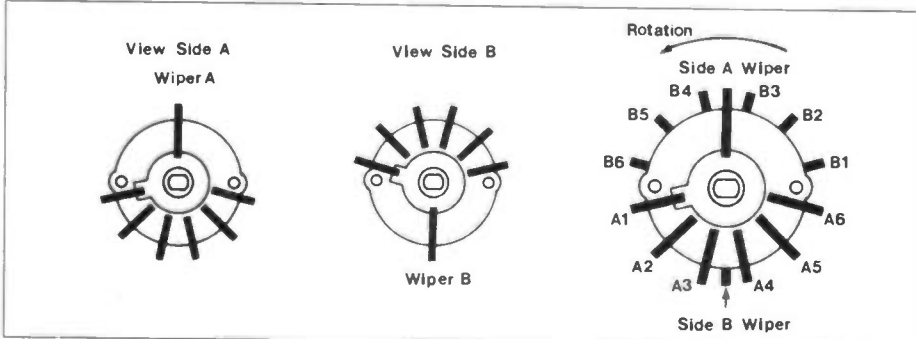

Figure 12. 2-Pole 6-Way Wafer
Three switching stages are needed for each channel and double sided wafer switches are recommended as shown in Figure 12. The make-shaft can be set to 5-way operation by re-inserting the locating peg as Figure 13 and each wafer slides over the shaft with their Side B offered first and facing the switch body housing (Figure 14). Figure 15 details wiring connections to and from and between both modules. Wiring from MXR 29 to wafer switches should be screened (multicore) and also screen VR1 wiring. MXR 29 0V(E) tracks are not commoned between left and right channels and separate 0V connections are required for this. Mixer Coil wire connections are colour-coded and should be fitted into their respective PCB positions as shown. The presets VR2 and VR102 are set to a position which maintains a suitable signal level throughout the module system, but it is not advisable to keep the wipers at the maximum - anticlockwise - position as the circuit is liable to oscillate due to the high gain characteristics of the input